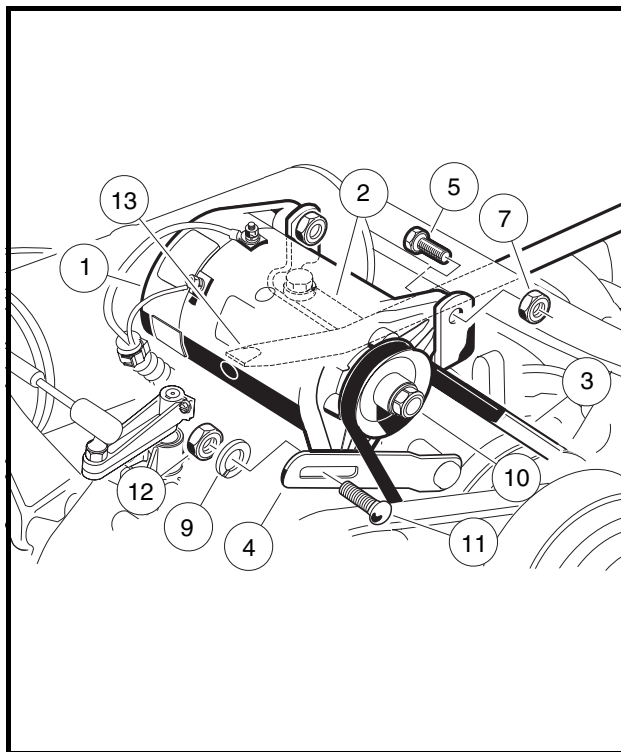
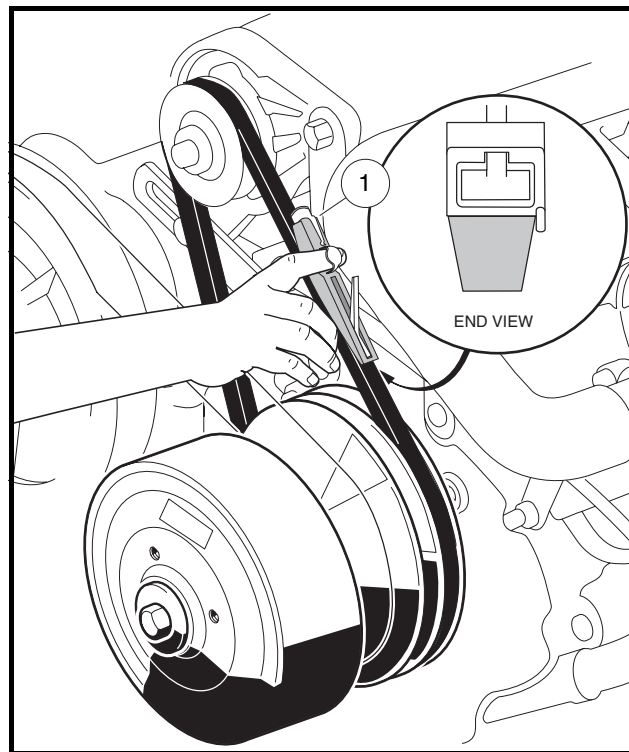

Figure 14-13 Starter/Generator Installation
Figure 14-14 Belt Tension Gauge
2. Install two 3/8-inch hex-head pivot bolts (5) into the mounting bracket with the heads of the bolts facing toward the driver-side of the vehicle. Position the starter/generator in the mounting bracket so that the bolts will go through the starter/generator before going through the bracket. Install a lock nut (7) onto each bolt. Tighten to finger tight (**Figure 14-13, Page 14-10**).
3. Install the adjustment bolt (11) through the adjusting bracket (4) and then through the starter/generator. Install a lock washer (9) and 5/16-inch nut (12) onto the end of the adjustment bolt (11). Tighten to finger tight (**Figure 14-13, Page 14-10**).
4. Install the belt (3), then tighten the mounting bolts. **See Belt Tension Adjustment on page 14-11.**
3. Make sure the two pivot bolts (5) on the mounting bracket are finger tight. The carriage bolt (11) and hex nut (12) are to be finger tight also (**Figure 14-13, Page 14-10**).
4. Push the starter/generator down so it is at the lowest point of its adjustment travel. With the starter/generator belt in place around the drive clutch pulley, install the starter/generator belt (3) around the pulley (10) on the end of the starter/generator.
5. Position a pry bar (13) between the top of the starter/generator mounting bracket (2) and the underside of the starter/generator by passing the pry bar under the exhaust header.
6. While holding the pry bar, measure the belt tension using a Krikit[®] gauge (1) (available at NAPA[®] Auto Parts stores), or equivalent. Proper tension for a new starter/generator belt should be 75 ft-lb (101.7 N·m) or 45 ft-lb (61 N·m) for an existing belt (**Figure 14-14, Page 14-10**).
7. While maintaining the tension, tighten the adjustment nut (12) to 144 in-lb (16.3 N·m). Tighten the two pivot bolts (5) and hex nuts (7) to 23 ft-lb (31.2 N·m) (**Figure 14-13, Page 14-10**). **See following CAUTION.**